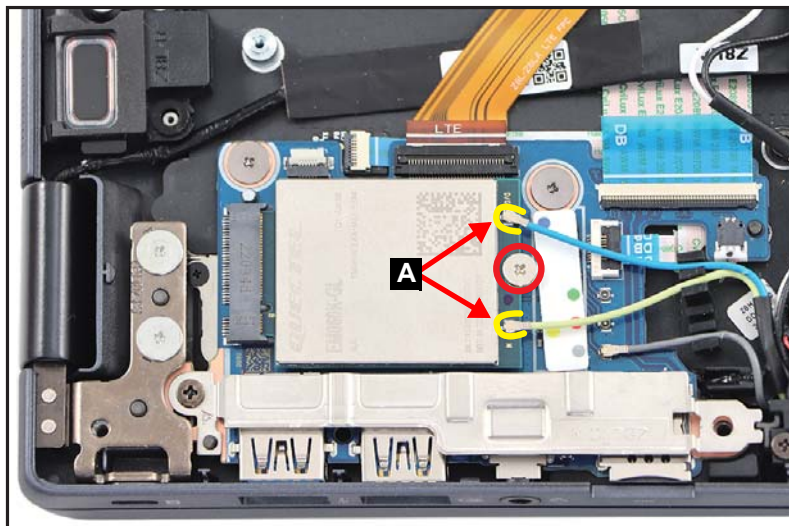

Figure 1-16. LTE Module Removal
1. Disconnect the LTE antennas cables from the LTE module connectors (A) (Figure 1-16).
2. Remove one (1) screw securing the LTE module (Figure 1-16).